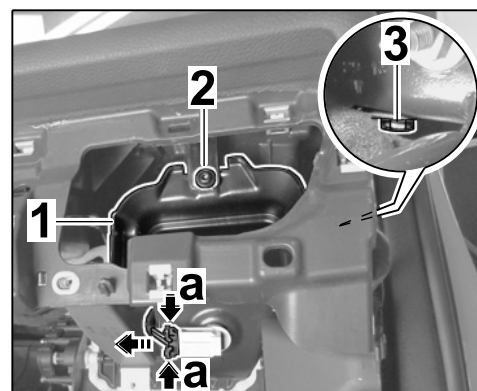

Figure 2
2.3.2 Release connector (⇒ *Figure 2-a*) and disconnect it.